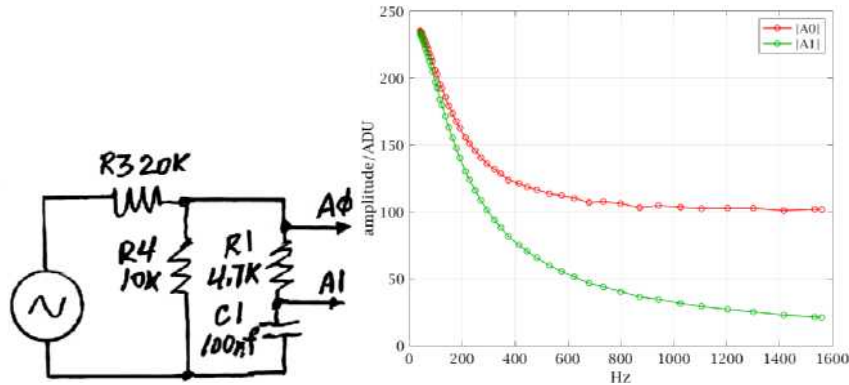

Figure 15. Simplified Fig. 1 showing the voltage divider and RC circuit, and Fig. 3, showing measured "raw" amplitudes from the frequency sweep.
I verified this again by connecting my DVM on VAC to the function generator output, and executing `freq2pwm(500,ard)` with several different frequencies (or turn the frequency pots, I almost forgot them). The DVM read 2.28-2.33VAC, with lower values ~30Hz and >1.2kHz – which could be due to the AC bandwidth of the cheap DVM. The small variability can't explain Figs. 3 and 15. However, the voltage divider is no longer simply R3 and R4, but R4 is "loaded" by the test circuit in parallel (Fig. 15). We can solve for A0 by computing the parallel impedance, $R4 \parallel (R1 + ZC1)$. Then solve for A1 with a simple voltage divider dividing A0. Let's quantify that in code:
3) What if we swapped the location of R1 and C1 in the circuit? Look at the schematic, Fig. 1 or Fig 15. You might think "no problem, they're in series so it doesn't matter. Just swap variable names, `vr` and `vc` in the equations from above ...", copied just below (notice why Rasnow doesn't comment too much – I swapped "vr" with "vc", but forgot to change the comments. When the code doesn't work, imagine how much time can be wasted trying to make sense of the inconsistencies – how should you interpret the first line below that suggests "vc is the voltage across R1"?